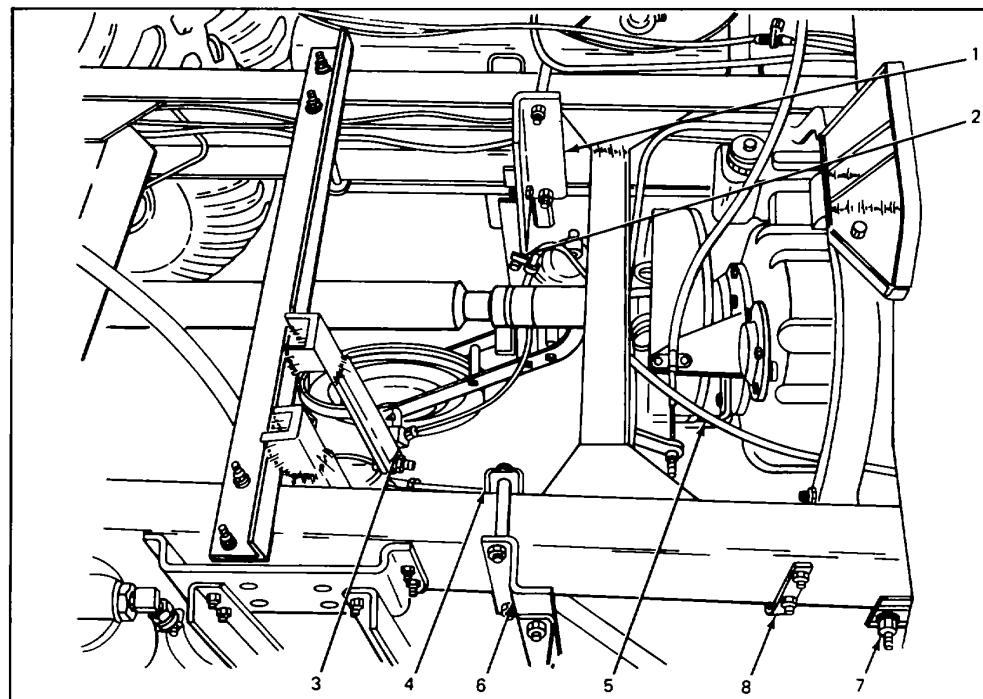

Figure 44
First drill two (2) 7/8 holes in cab floor as seen in Fig. 47 for flexible cable to pass through. Slip rubber grommet over upper end of 252" pump tachometer cable, feed lower end through hole in floor of cab and attach upper end to pump tachometer. Next slip rubber grommet over upper end of 144" bitumeter (fifth wheel) cable, feed lower end through hole in floor of cab and attach upper end to ground speed indicator. Press grommets into cab floor holes around cables. Lay pump tachometer cable along inside right hand chassis frame (Fig. 48) being careful to keep cable clear of hot areas and rotating drive components. Secure cable in place with self-locking ties (Fig. 47). Next feed fifth wheel cable to angle adapter on fifth wheel (Fig. 44). Again, care should be taken to keep cable clear of direct contact with hot chassis components and rotating drive components
Attach cable support bracket to right chassis frame using two (2) 1/2 X 1 1/2" bolts as seen in Fig. 44. Holes for this bracket were made available when brackets for tool box were removed.